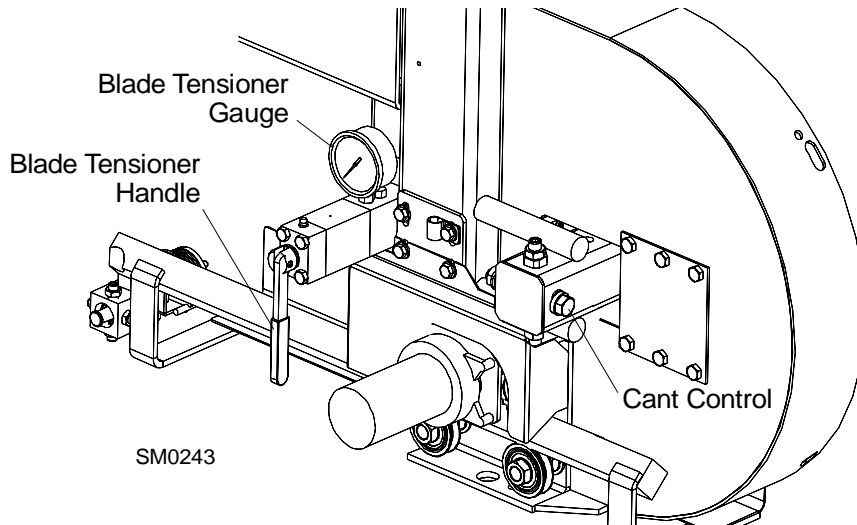

FIG. 3-5
See **Figure 3-5**. Tension the blade by turning the hydraulic tensioning handle clockwise until the tension gauge indicates the recommended tension.
5. To adjust where the blade travels on the blade wheels, use the cant control shown in **Figure 3-5**.